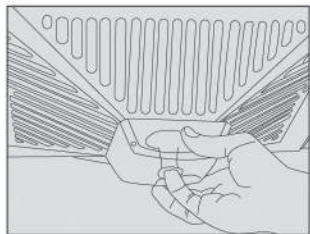

Fig. 1
1. Disassemble the oil cup by turning it counterclockwise and discharge the oil left in it (Fig. 1);